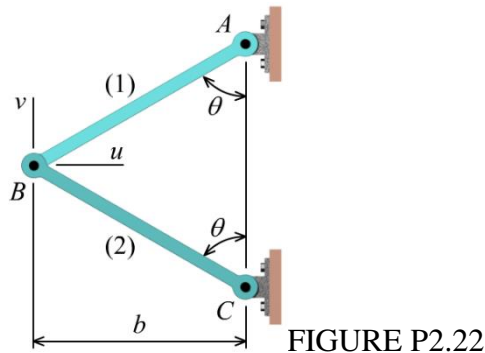

FIGURE P2.22
P2.22 For the assembly shown in Figure P2.22, high-density polyethylene bars (1) and (2) each have coefficients of thermal expansion of $\alpha = 88 \times 10^{-6}/^{\circ}\text{F}$. If the temperature of the assembly is decreased by 50°F from its initial temperature, determine the resulting displacement of pin B . Assume $b = 32$ in. and $\theta = 55^{\circ}$.